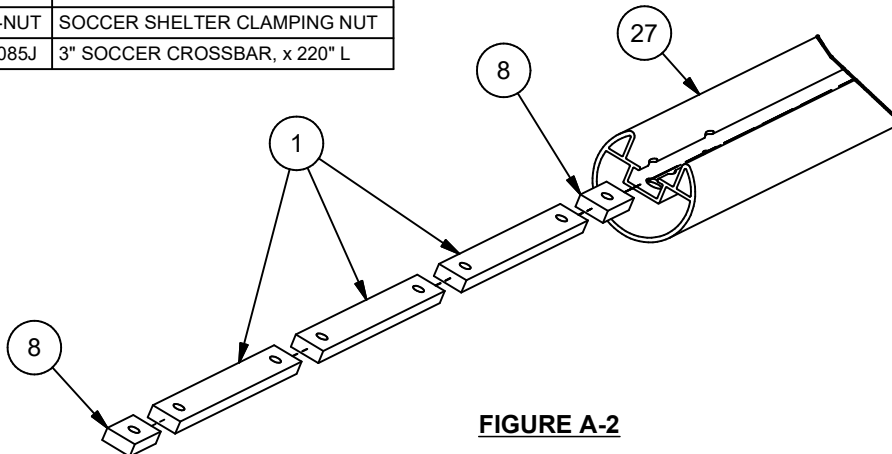

FIGURE A-2
2. **CRITICAL STEP** Insert the three 7" nut bars and two 1.5" nut bars into the track of the cross bar **IN ORDER** as shown in Figure A-2. **Failure to do so at this step will require full disassembly.**